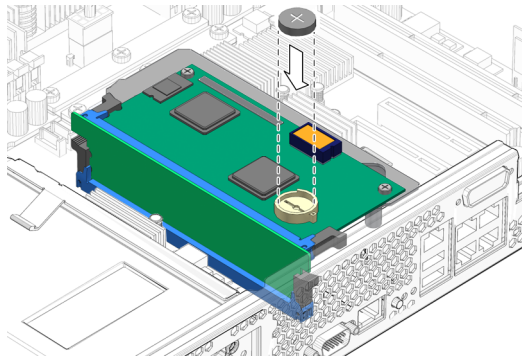

FIGURE 4-15 Inserting the Battery Into the System Controller Board
2. Press the new battery in with the “+” side facing up (FIGURE 4-15).